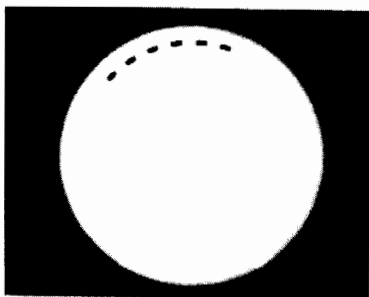

Fig 3-4. Spinning top image of a single pulsed unit using a 60 Hz mains supply
- A **0.1 sec exposure** will produce **6 spots** (see Fig 3-4).